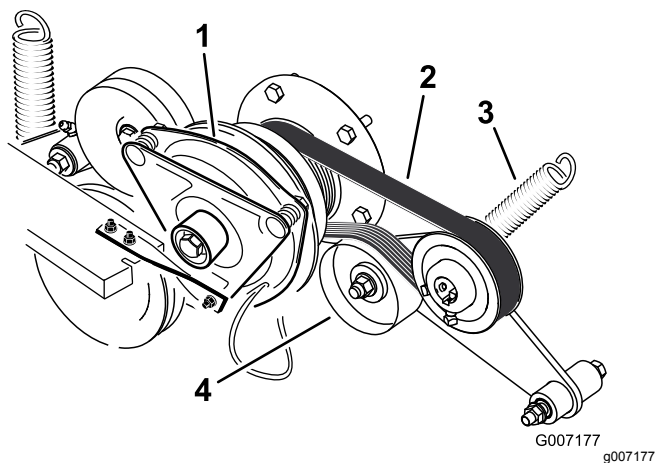

Figure 87
3. Remove the spring from the idler arm (Figure 87).
4. Install the new belt around the engine and hydraulic pump pulley (Figure 87).
6. Install the spring to the idler arm (Figure 87).